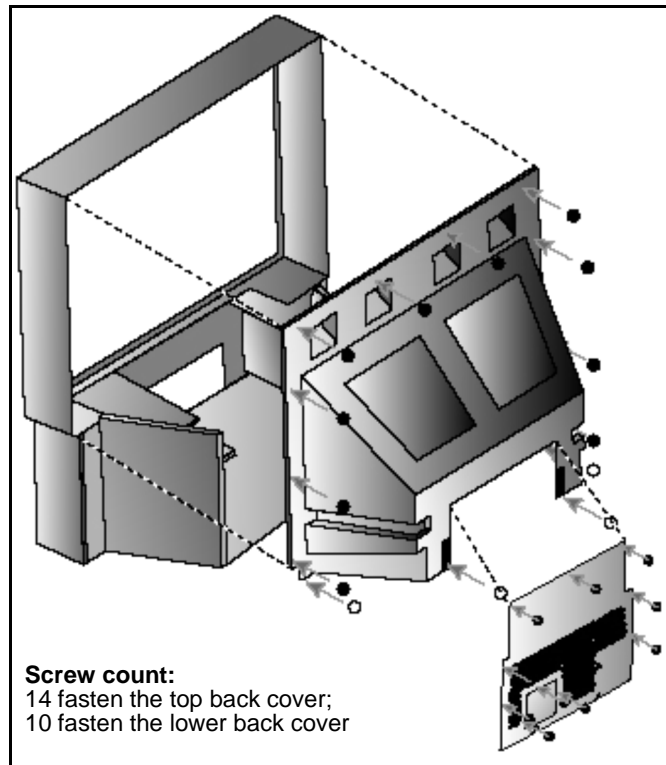

Figure 8. Cabinet Covers Removal
Cabinet Back Lower Cover Removal (Fig. 8)
1. Remove (7) hex screws around the perimeter, marked with arrows. See Fig. 8 for screws location.
2. Remove (3) screws from around the A/V terminal board (marked with arrows).
Cabinet Back Cover Removal (Fig. 8)
2. The top Back Cover (plastic shell) is secured with (14) screws around its perimeter. See Fig. 8 for screws location.
2. Remove the cabinet back lower cover. See Fig. 8.